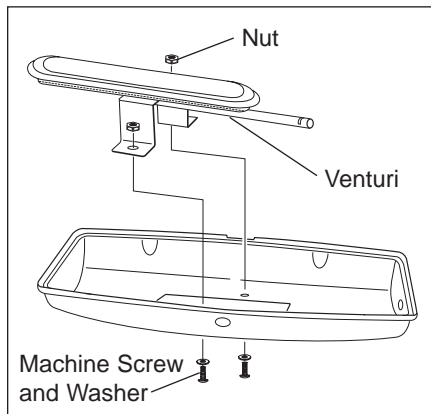

Figure 6
1. Turn the Grill Body upside down and locate the two machine screws that secure the Burner Assembly to the Grill. Refer to Figure 6. Loosen and remove these screws, making sure you retain the screws, washers and nuts for reassembly.